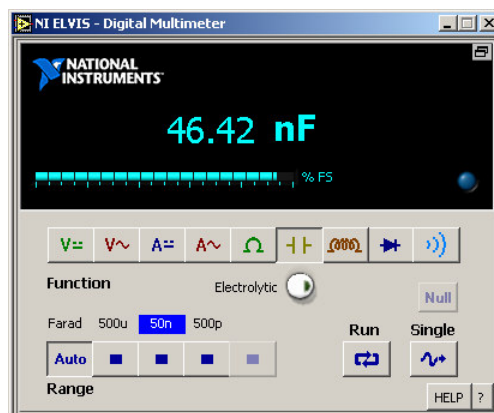

Fig. 8. Digital Multimeter SFP indicating the capacitance value.
15. Click the Capacitance button to use the Digital Capacitance Meter function to measure the value of the capacitance. Once the measurement is successful the output should appear as show in figure 8.